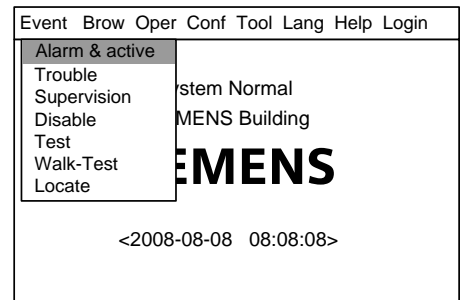

Fig.23-1
1. Press "Menu" to browse the main menu (Fig. 23-1)